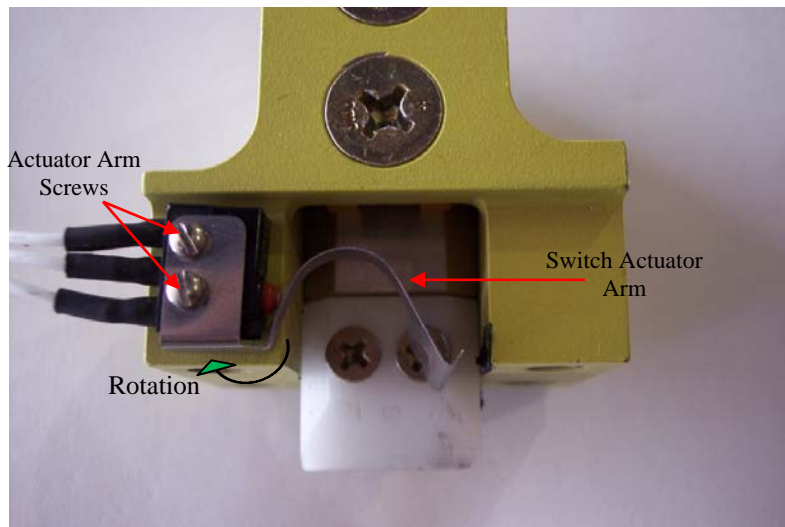

Figure 5-4. Rotation of Switch Actuator Arm
- Rotate the actuator arm slightly (**Figure 5-4**).